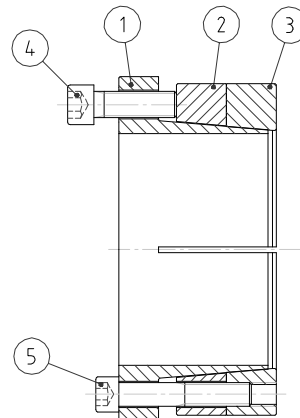

Fig. 2
3. Release collar item [2] by tightening all push-off screws in a crosswise pattern, not exceeding 1/4 turns for several passes (see fig. 2).